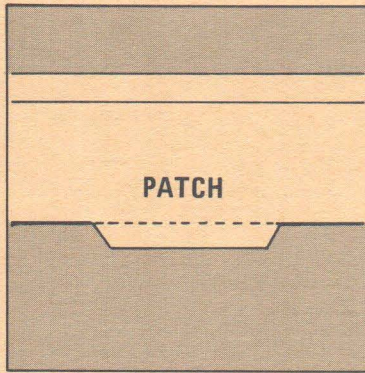

Figure 7
- Press seamline back on garment using point of iron. Press crease in patch beyond each end in line with stitching (Fig. 7).